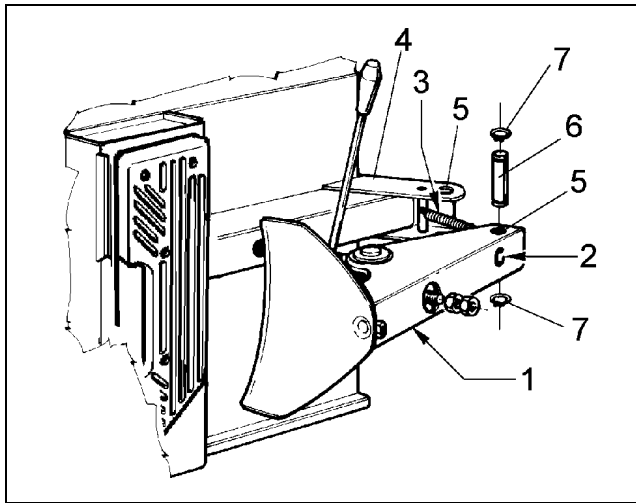

Fig.9
H. Place the bead breaker arm (#1 Fig.9) inside arm support (#4 Fig.9). Holes (#5 Fig.9) of arm and arm support must match.
Grease pin (#6 Fig.9). Lock arm (#1 Fig.9) to arm support (#4 Fig.9) with pin (#6 Fig.9) and rings (#7 Fig.9).
I. Attach spring (#3 Fig.9) to the hook on the frame and connect it to hook (#2 Fig.9) on the bead breaker arm.